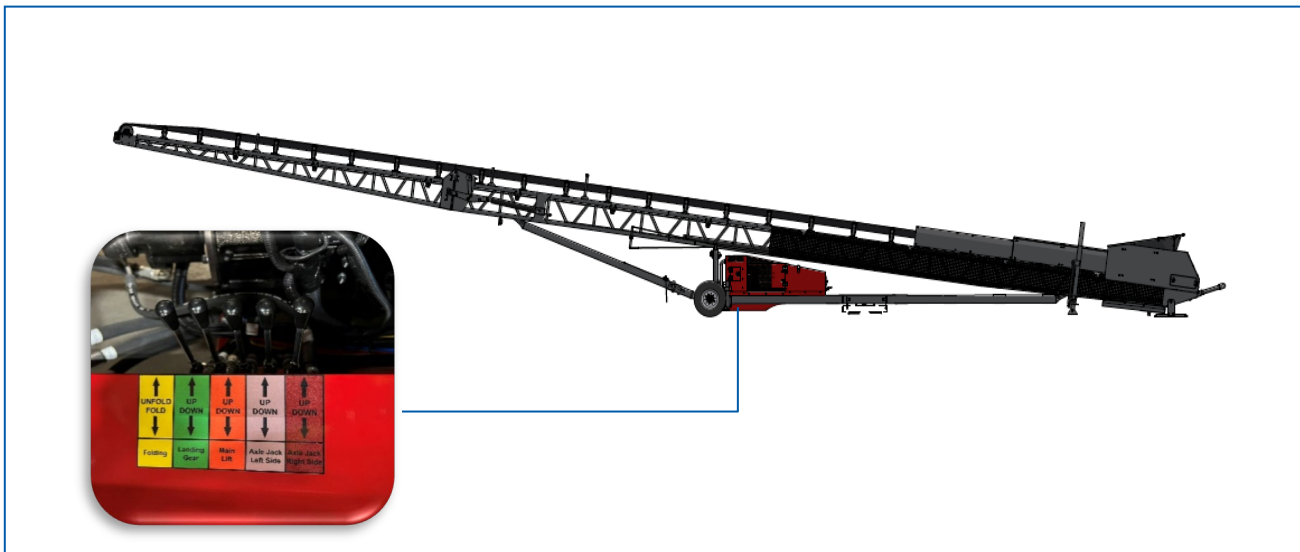
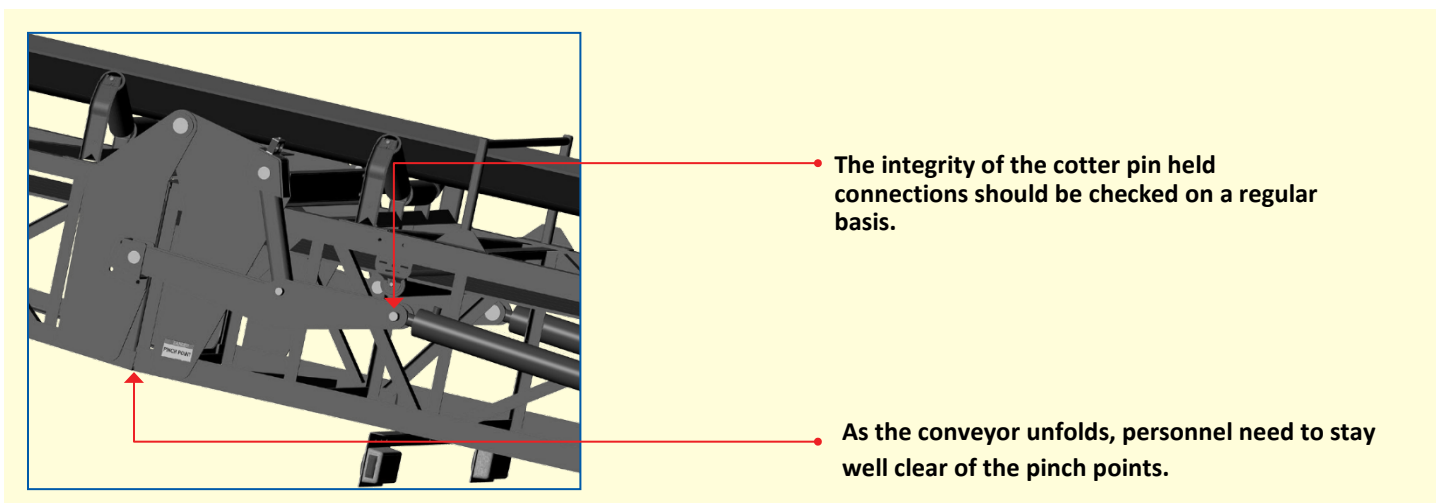
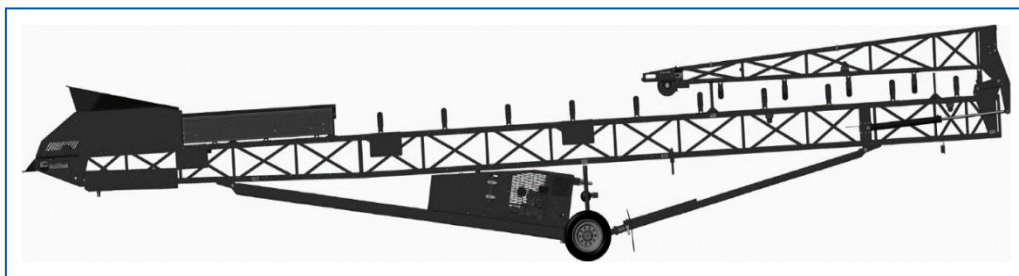

Figure 2: Control Valves
Figure 3: Pinch Points
Figure 9: Travel Position
- 3 Unfold the head frame using the hydraulic controls (Figure 2). Keep all personnel well clear of any pinch points (Figure 3).
All control valves (Figure 2 on page 25) must be in the neutral (mid) – position.
Conveyor belt, pull the conveyor control arm (Figure 2 on page 25).
Fold the conveyor in the travel position (Figure 9), using the hydraulic top fold control valve (Figure 2).
The machine is transported by attaching the back end of the machine (hopper end) to a transport vehicle's 5th wheel (Figure 9). A suitable lifting device (e.g., fork lift truck, crane, optional landing gear legs) should be used to lift the hopper end of the machine for connection to the transport vehicle. During loading continually check ground clearance.